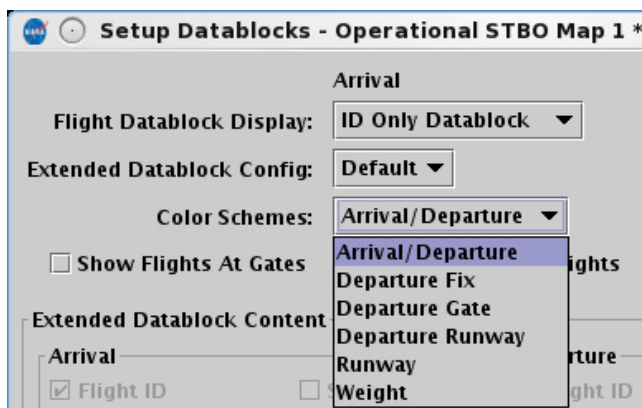

Figure 40. Map color scheme.
**Step 1:** Click on the "Color:" drop-down list arrow (Figure 40).